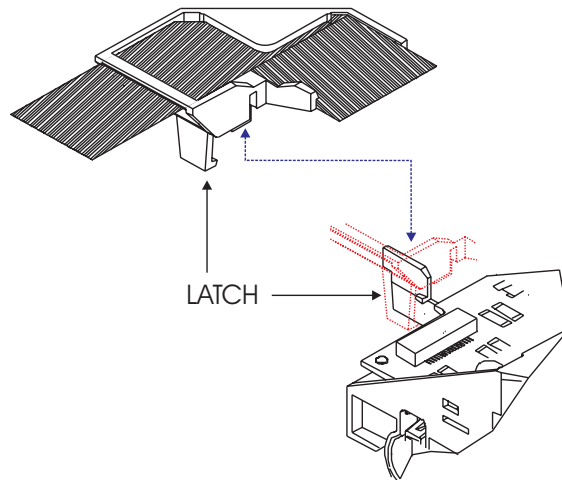

Figure 5-10. Strain Relief Removal/Installation.
5. Remove the Trailing Cable and Strain Relief from the Carriage Assembly by releasing the latch on the left lower side of the Strain Relief and lifting it off of the Carriage Assembly. See Figure 5-10.
7. Insert the Strain Relief (with Trailing Cable) onto the Carriage Assembly by sliding it onto the Strain Relief Support until it snaps firmly into place. See Figure 5-10.